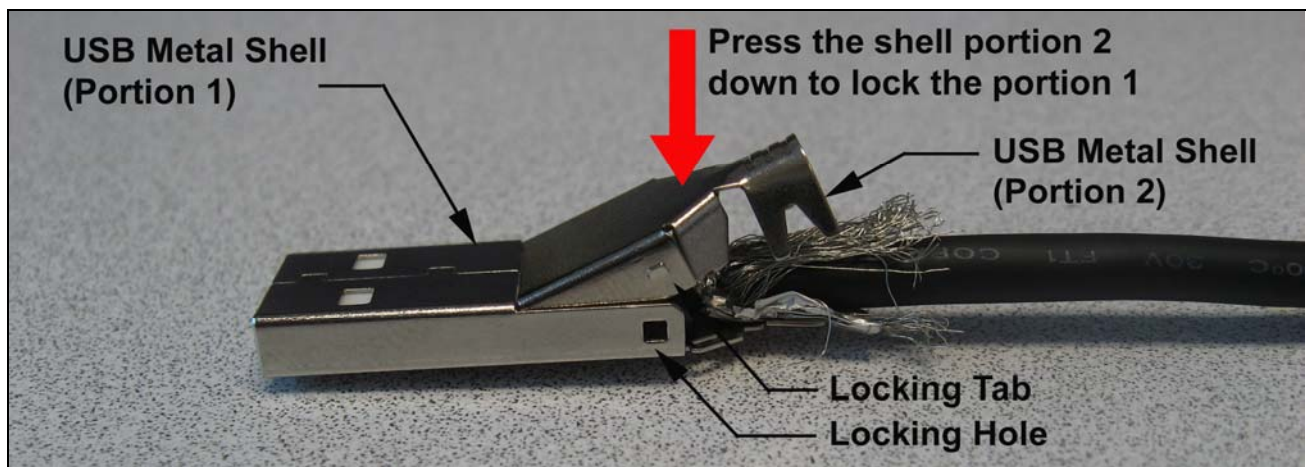

Figure 3-7: Assembly of the Metal Shell
Step 5: Place the metal shell portion 2 in the proper position with the portion 1 according to Figure 3-7 and press the portion 2 straight down until both locking tabs of the portion 2 snap into the holes of the metal shell portion 1.